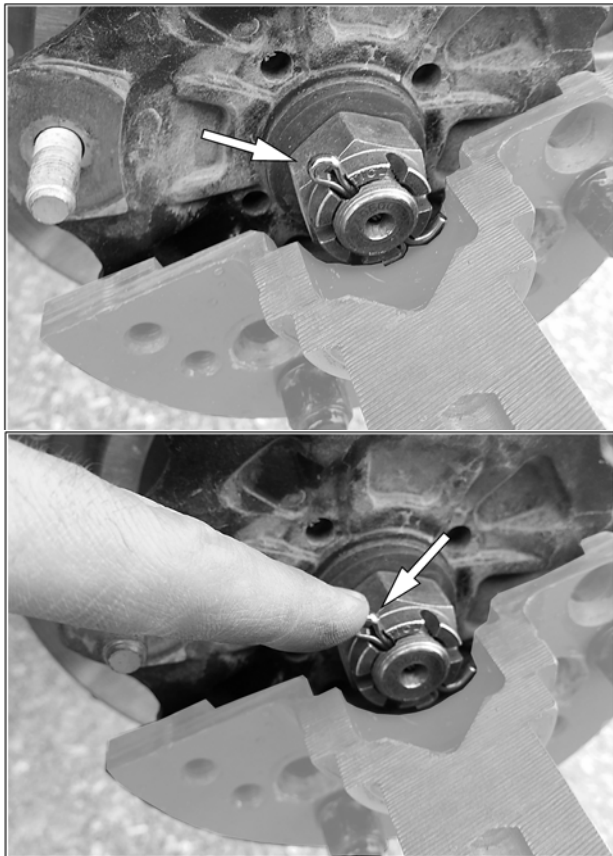

Fig. 8
- Bend head of cotter pin down toward castle nut to avoid interference with track system hub during installation. There must not be any resistance when track system is installed on vehicle's wheel hub. See Fig. 8